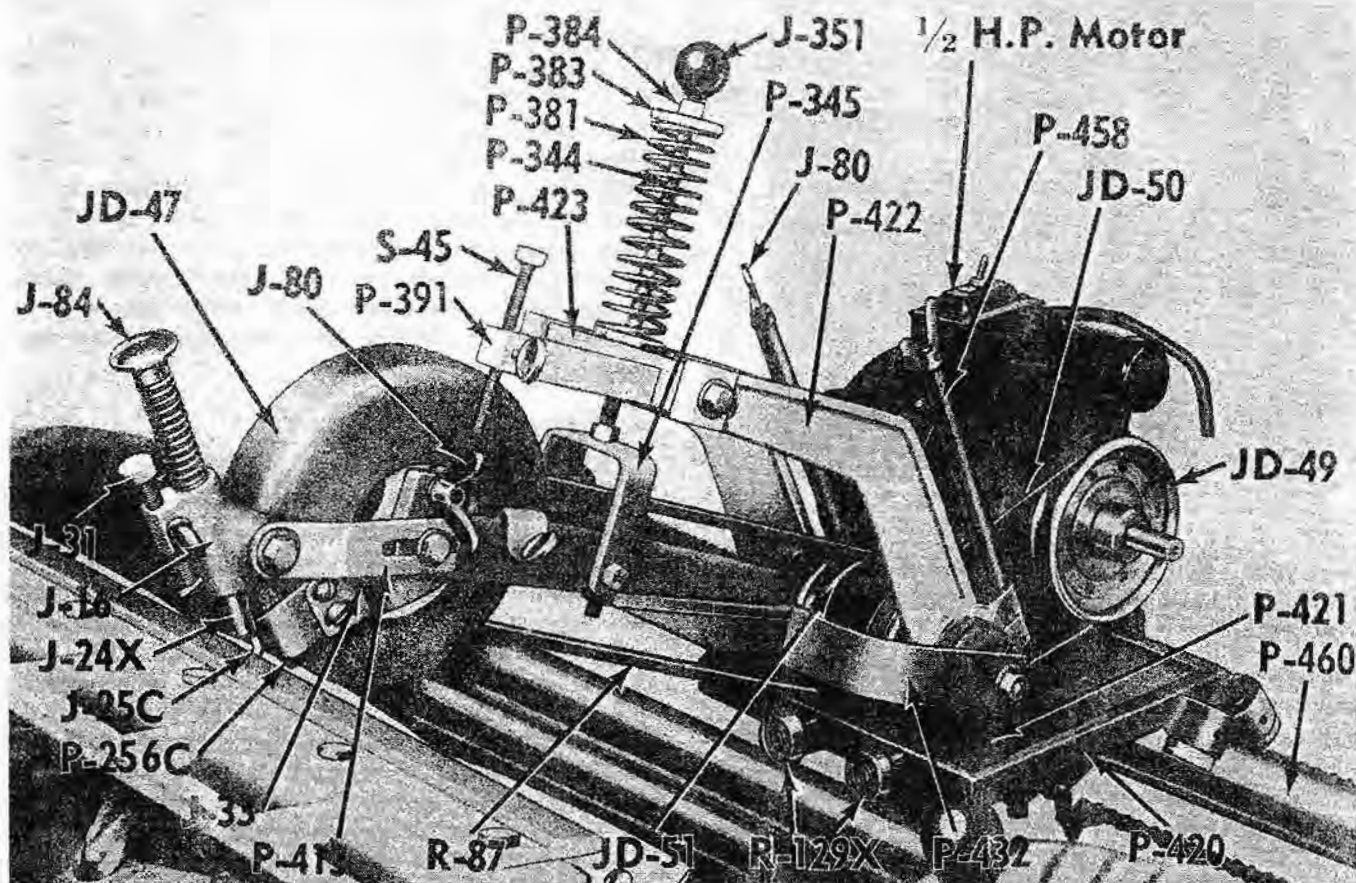

Fig. 2
27. GRINDING HEAD AND CARRIAGE (See Fig. 2). The carriage which travels from side to side on tracks cannot be moved forward or backward. The center of these track shafts are supported by adjusting screws which have been set at the factory for perfect straight line alignment. As explained in paragraph 18, under Fundamental Principles, these screws can be used to arch the track shafts slightly at the center for crown grinding.